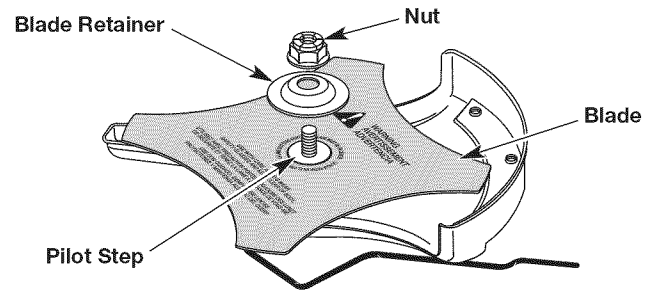

Fig. 16
1. Put the blade on the output shaft bushing (Fig. 15). Make sure the blade is centered on the pilot step (Fig. 16). The blade should sit flat against the output shaft bushing.
4. While holding the locking rod in place, put the blade retainer and nut on the output shaft (Fig. 16).